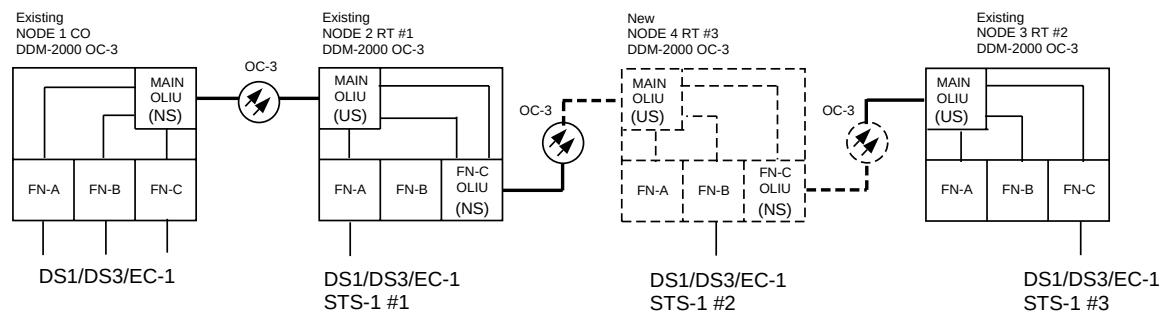

Figure 1. Adding an RT in Middle of an Add/Drop Optical Span
3. At **both** shelves on each side of the RT being added (for example, in Figure 1, RT #1 and RT #2), use the **switch-line:address:pri=manual** command to switch to the protection line [slot **2(P)**], if not already on protection.
The data communication channel (DCC) (far-end communication [fecom]) must be turned off at each shelf before the new shelf is spliced in. For example, if the configuration is as shown in Figure 1, the DCC must be disabled on both **MAIN** and **FUNCTION UNITS C** DCCs at the new shelf using these commands:
Using the **rtrv-crs-vt1/sts1:** command at existing nodes displays the existing cross-connections. For example, in Figure 1, if the new RT is being added between existing RT #1 and existing RT #2, use the **rtrv-crs-vt1/sts1:** command at RT #1 to display the existing DS1 (VT1.5)/STS-1 cross-connections to RT #2.
At new RT, use **ent-crs-sts1:address,address** or **ent-crs-vt1:address,address** command to cross-connect all in-service STS-1/VT1.5 signals from incoming optical interface to outgoing optical interface. (For example, in Figure 1, use **ent-crs-sts1:m-1,c-1**; **ent-crs-sts1:m-2,c-2**; and **ent-crs-sts1:m-3,c-3**; commands to cross-connect all STS-1 signals from **MAIN** to **FUNCTION UNITS C OLIUs**.)